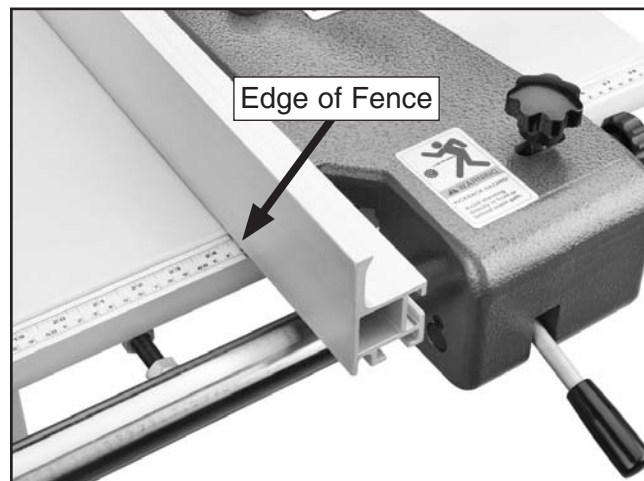

Figure 59. Edge of rip fence over scale indicates cutting width.
3. Adjust the rip fence to the location necessary for the width of cut, lining up the edge of the rip fence where necessary on the scale (see **Figure 59**), then locking the fence in place.